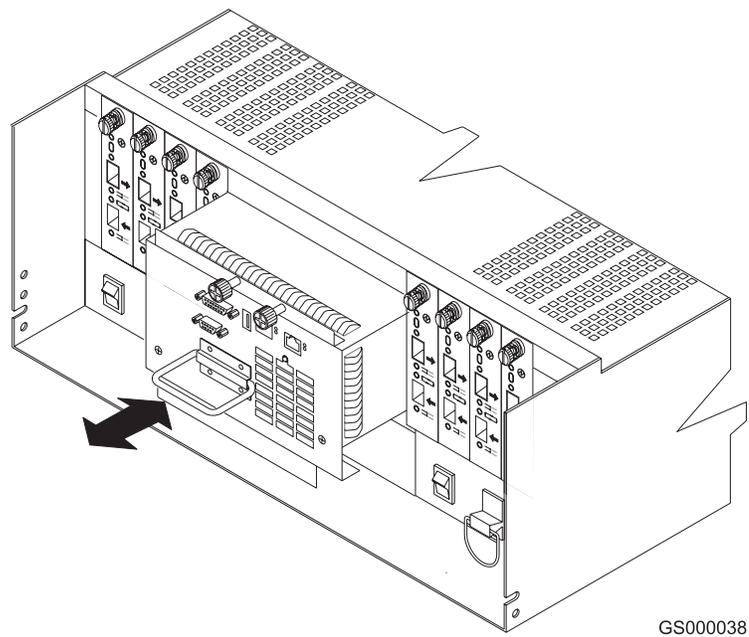

Figure 43. Removing and installing a fan and communications module
The fan and communications module is a single, removable unit that contains two cooling fans and two Ethernet ports. This module plugs into a slot at the center back of the DS4500 Storage Server, just above the power supplies (see Figure 43 on page 55). It has two captive screws and a rectangular handle for securing and removing the fan and communications module. The module contains dual fans that provide a redundant cooling system to both power supplies. If one fan within the module fails, the other continues to operate. A single fan provides sufficient air circulation to prevent the power supplies from overheating until you can replace the entire fan and communications module.
2. Use Figure 43 as a guide and perform the following steps to remove the failed fan and communications module from the DS4500 Storage Server.